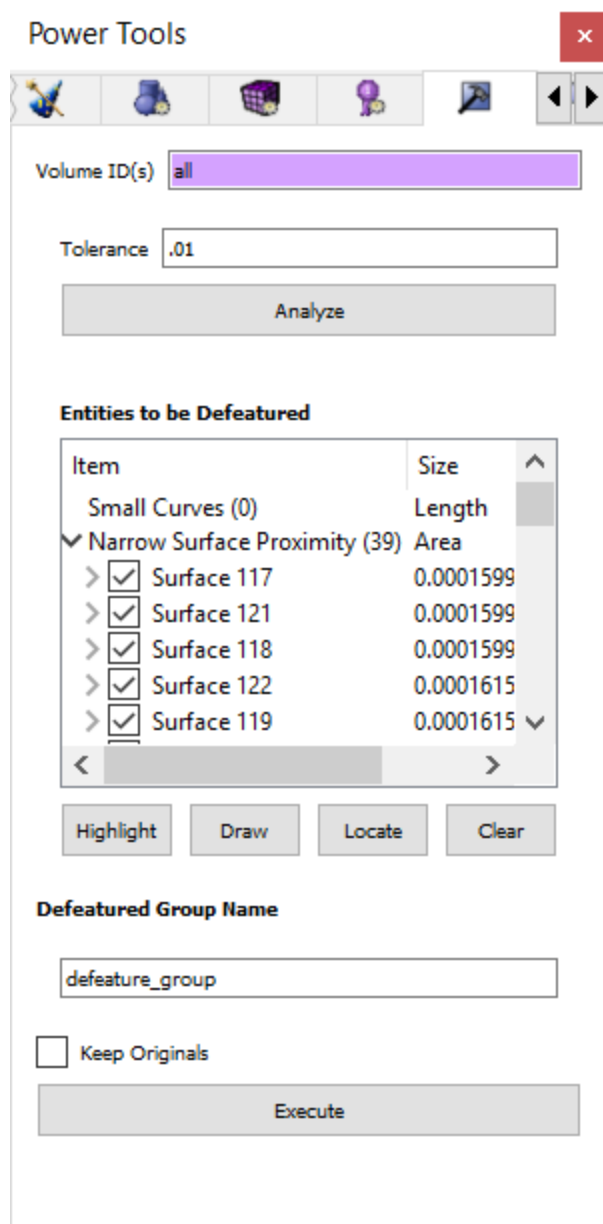

Figure 1 - Defeature Power Tool
Step 1 requires specifying volume ids (e.g. all) and a tolerance (e.g. 0.6) as shown in Figure 1. Clicking “Analyze” button will automatically find small curves and surfaces in the volumes specified. Figure 2 shows the highlighted small curves and surfaces with the label information. Figure 3 shows a zoom view of a small surface.